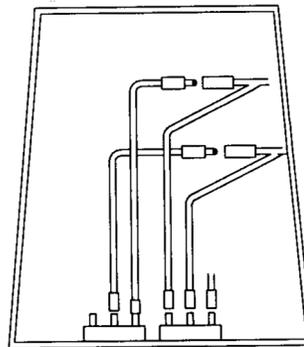

FIGURE 1
6. Remove front cover from valve by disconnecting valve switch wires from *PUSH* switch jumper wires (see Figure 1).